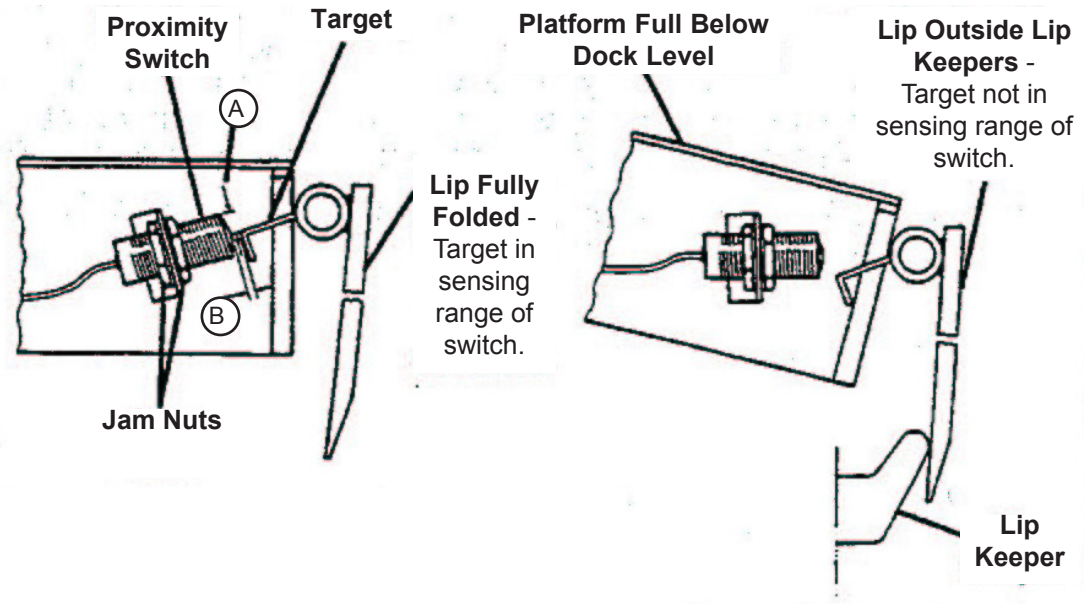

Figure 21
3. Press the RAISE button. The dock leveler should NOT raise. If the leveler did not raise, proceed with step 4. If the leveler did raise, decrease dimension (A) or (B), so that the target is in the sensing range of the switch. Typical factory settings for (A) and (B) are approximately 3/4" and 1/8" respectively. Make adjustments at switch (dimension B) and/or target (dimension A) until leveler does not raise when the vehicle restraint is not engaged on transport vehicle RIG bar. See Figure 21.
6. Press the RELEASE button. The vehicle restraint should NOT disengage from the transport vehicle RIG bar or test fixture. If the vehicle restraint did NOT engage, proceed with step 7. If the vehicle restraint DID disengage, move the switch farther from the target or bend the target so that the target is not in the sensing range of the switch. Make adjustments at switch and/or target until vehicle restraint does not disengage transport vehicle. See Figure 21.